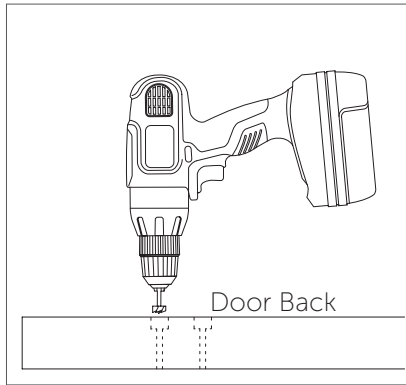

Figure 4
7. Turn the door over. Using a 1-1/8" Forstner bit\*, drill a 7/16" deep hole into each pilot hole. (Figure 4).